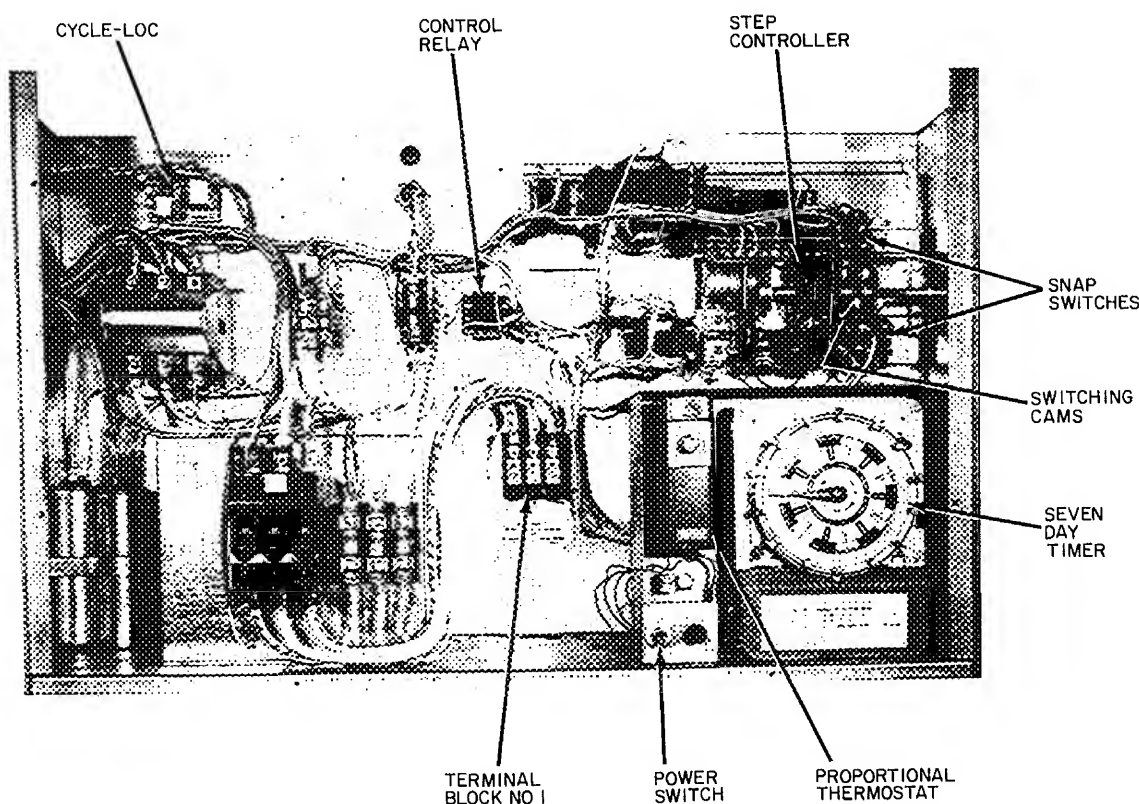

Fig. 18 — Control Panel, Variable Volume Limits
**Variable Volume Units** — Units suitable for use with variable volume air handling systems are equipped with 2 electric unloaders on the compressor. The control panel for these units (Fig. 18) consists of a step controller, a proportional thermostat, a 7-day timer and a power switch.
1. On the timer dial face (Fig. 18), loosen the thumb-screws which position the system ON and OFF trippers.
**PROPORTIONAL THERMOSTAT** — The proportional thermostat, Fig. 18, monitors temperature of the conditioned air leaving unit. On signal from the thermostat, sequence motor operates cam switches to load or unload compressor to maintain thermostat setting. Thermostat is factory set at 50 F  $\pm$  6 F but may be reset between 0° F and 100 F as follows: